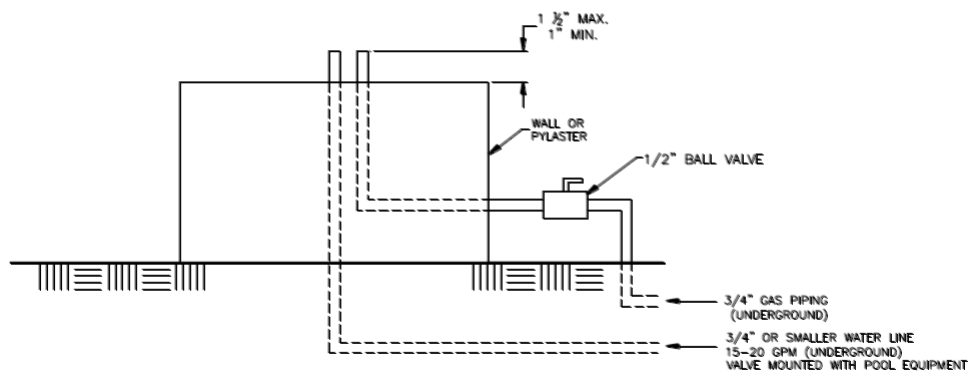
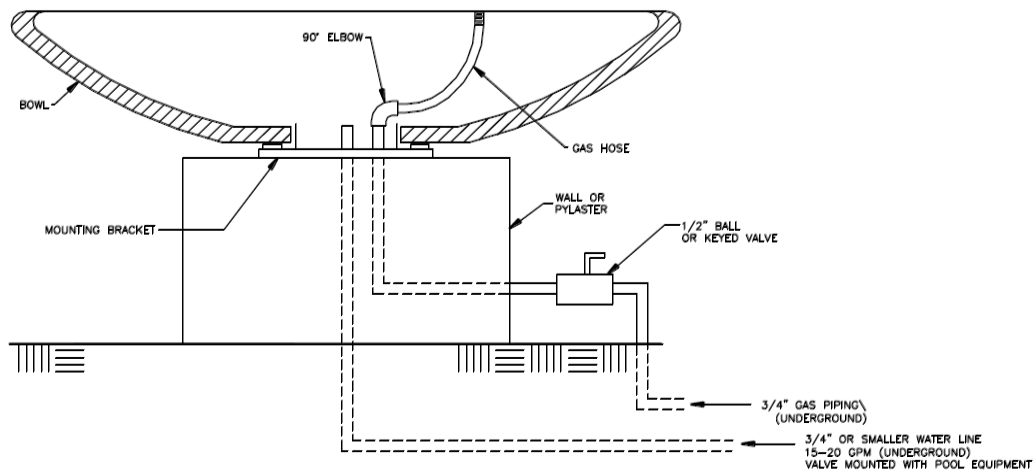
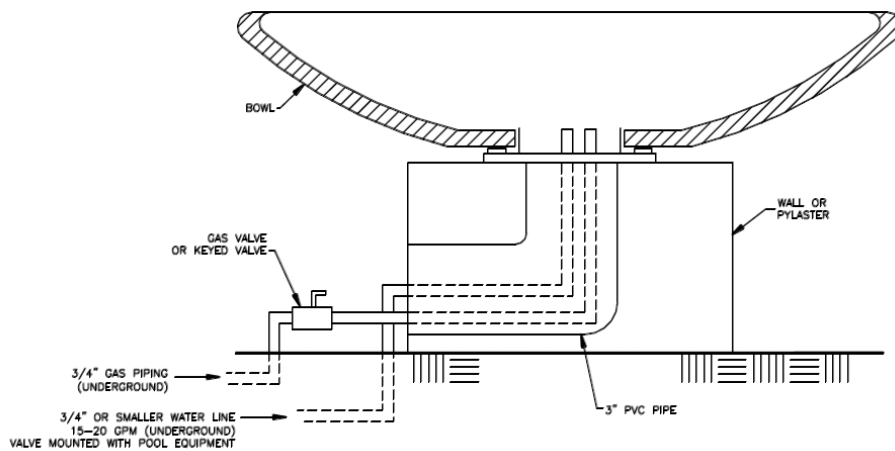
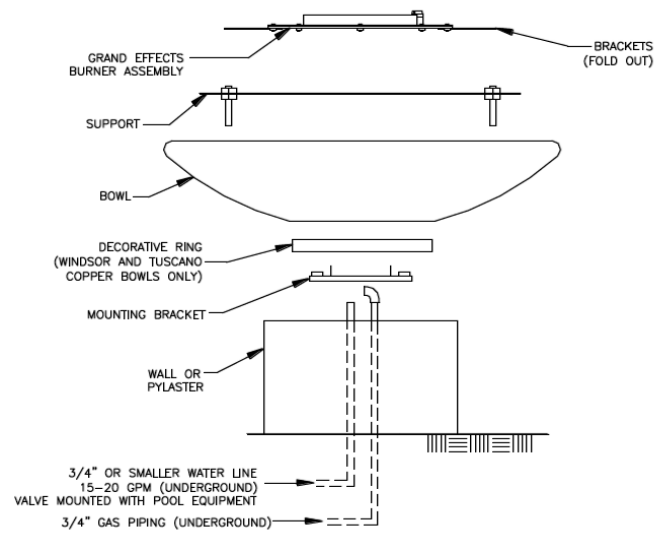

Figure 1
Figure 2: Mounting Bracket
Figure 3: Optional Drain Configuration
Figure 4
1. Install the Grand Effects Unit as shown in Figure 1, Figure 2, and Figure 4. Figure 3 is an optional configuration to catch dirty run-off water.
2. The gas piping must be installed underground between each fire or water bowl, as shown in Figure 1.
3. The piping must be reduced to 1/2" NPT or larger at each bowl, as shown in Figure 2.
7. Install the mounting bracket as shown in Figure 2. The mounting bracket should be secured using three bolts.
9. Install a 3/8" 90° pipe elbow and gas hose at the gas connection as shown in Figure 2.
Important: The mounting bracket must be installed for proper cooling of the burner assembly (excluded on 32" Biltmore). Warranty is voided if the mounting bracket is not installed. Do not kink or make sharp radius on the metal gas hose. Do not come straight up with the gas hose. As shown in Figure 2, a 90° gas pipe elbow must be installed on the gas line for proper installation of the gas hose. The product warranty is voided if it is not installed with an elbow as shown in Figure 2.
1. The height of the flame can be adjusted at each burner by opening or closing the 1/2" gas valve or keyed valve as shown in Figure 2.
Frequently inspect the gap between the base of the bowl and the mounting bracket. It should be kept free of dirt and debris that may restrict cooling air and drainage (see Figure 3).